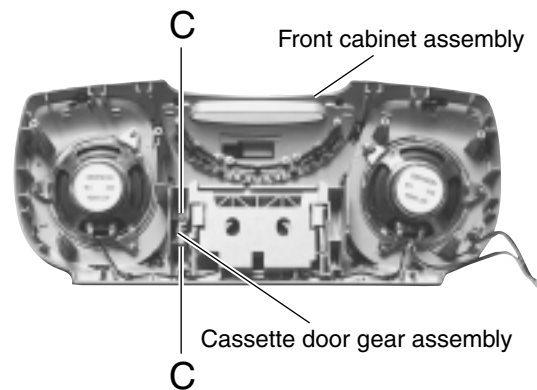

Fig.6
■ Removing the cassette door gear assembly (See Fig. 6.)